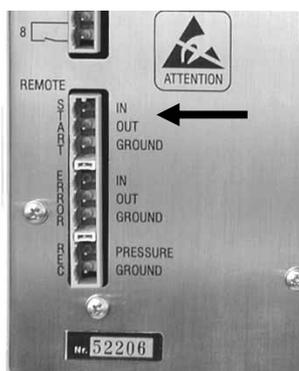

FIGURE A-8. START IN Port on the Micropump
- c) Connect the contact closure cable of the manual injection valve to the START IN of the Micropump (FIGURE A-8).